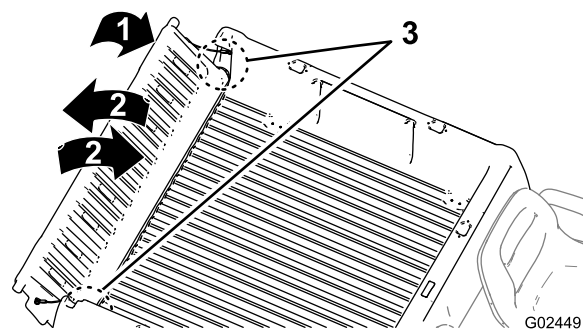

Figure 21
2. Rotate the tailgate to approximately 45° position (Figure 21).
3. Use a short, shaking motion to rotate the tailgate back and forth several times (Figure 21).